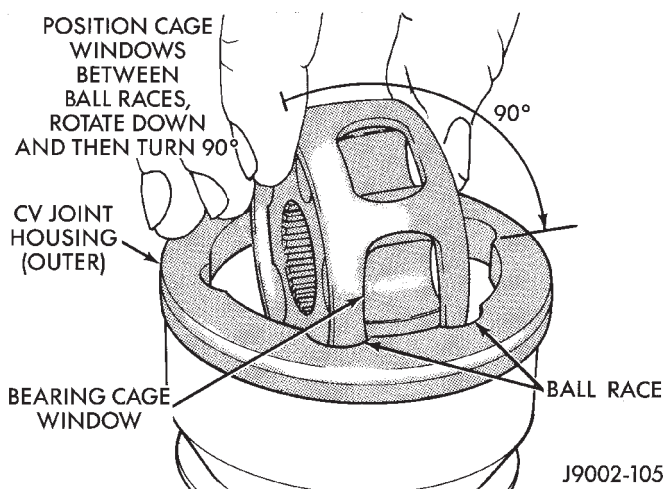
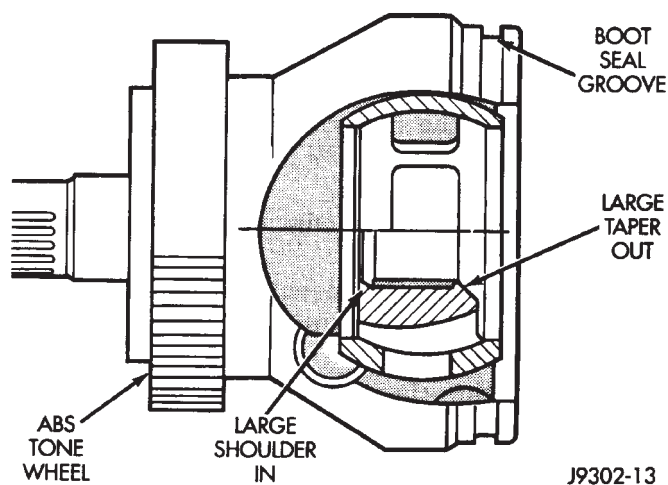

Fig. 17 Bearing Cage & Hub Installation
Fig. 18 Assembly Installed
(4) Insert bearing cage/hub into the housing (Fig. 17). Rotate the cage/hub 90° to complete the installation. **Ensure the tapered edge is facing outward (Fig. 18).**